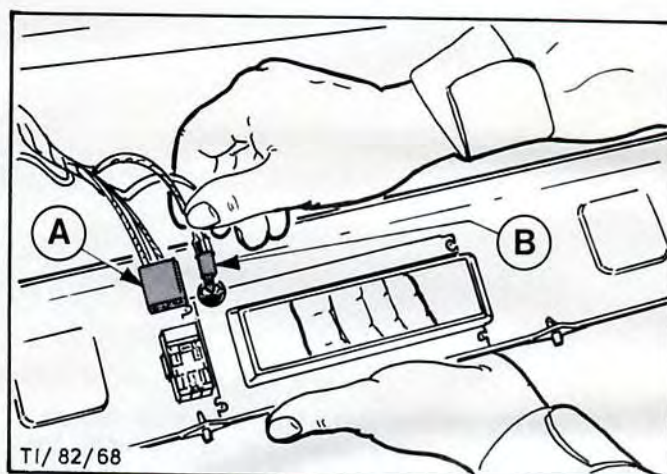

Fig.17. Fit multi-plug, A, and symbol light, B, to bezel of heater control unit.
11. Fit blower switch multi-plug and symbol illuminating bulb and holder, Fig.17. Mount bezel of heater control unit, Fig.18.